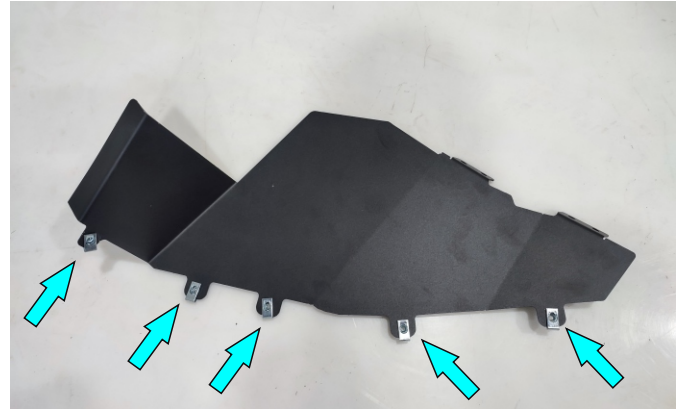

Fig.99
94. Install cage nuts M6 (item G) on flaps (items 13, 19) (fig.99).